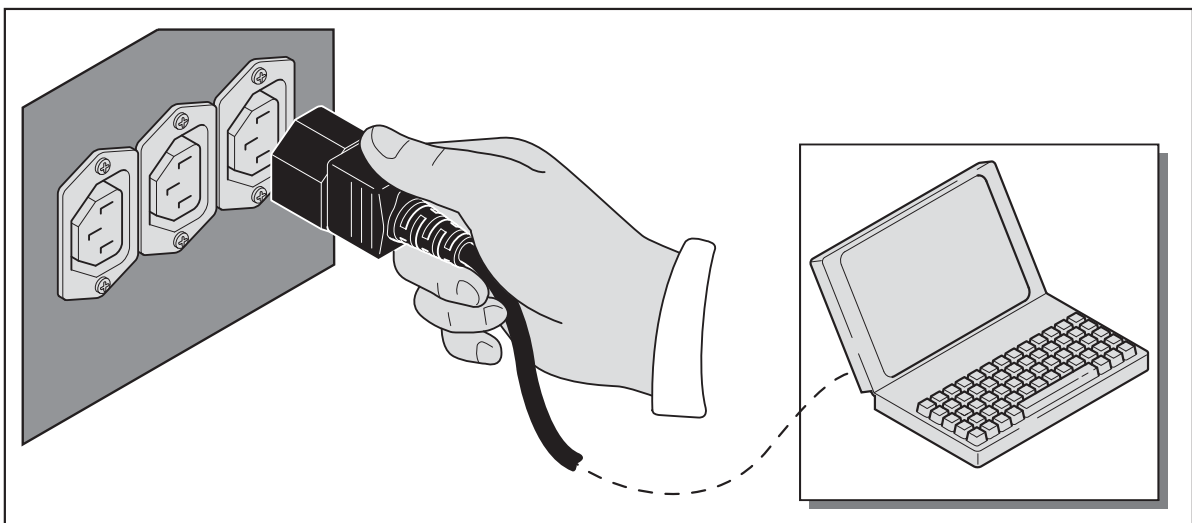

Figure 9-1
3. Connect the computer power supply cord to the auxiliary sockets on the rear door (Figure 9-1).